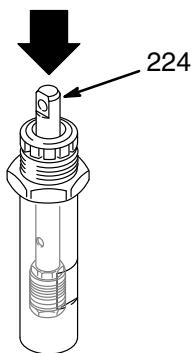

Fig. 18 _____ 02561
4. Tap the piston rod (224) out of the cylinder. See Fig. 18.